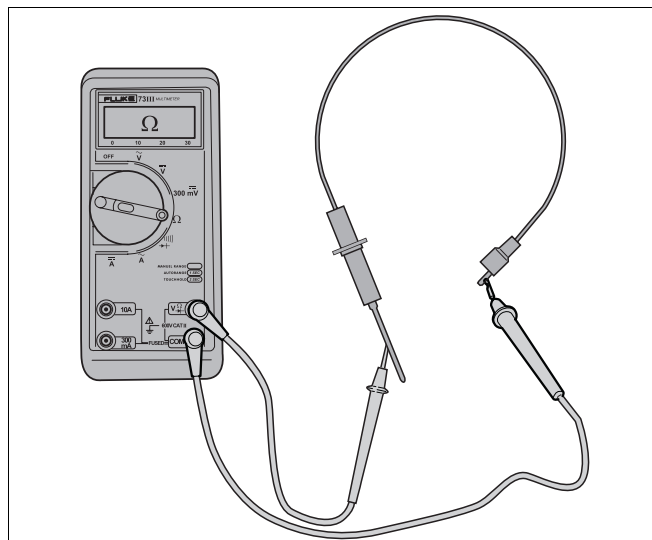

fig. 92 Measure resistance ionisation electrode
- Measure the resistance of the ionisation electrode (see fig. 92).